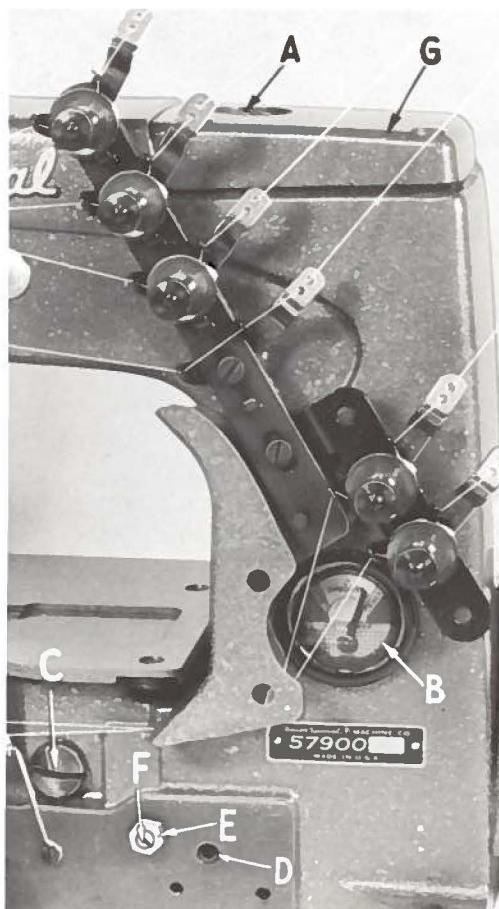
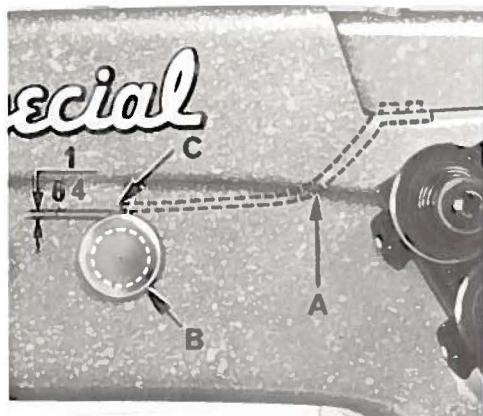

Fig. 2
Fig. 3
Use a straight mineral oil of a Saybolt viscosity of 90 to 125 seconds at 100° Fahrenheit in the main reservoir. This is equivalent to Union Special specification No. 174. Fill main reservoir at plug screw in upper crank chamber cover (A, Fig. 2) and check oil level at gauge (B). Oil is at maximum level when needle is in yellow band marked "Full". Oil should be added when needle is in yellow band marked "Low".
Oil may be drained from main reservoir by removing plug screw (C, Fig. 2) located below the cloth plate at front of the machine.
2. Remove the oil reservoir plug screw (C, Fig. 2) and tip machine forward to drain oil from the reservoir.
5. Fill main reservoir to a level even with the bottom contour of the knee press shaft bushing (D, Fig. 2).
Remove the head cover and upper crank chamber cover (G, Fig. 2). Check position of needle lever bearings oiler (A, Fig. 3) located inside the arm casting, below the upper crank chamber cover, which lubricates the needle lever stud (B). Make sure it is tilted downwardly and that its delivery end (C) contacts the inside wall of the bed casting at the back, just above the notch of the needle lever shaft stop collar. (Do not allow the oiler to rest on the needle lever). Allow 1/64 inch clearance as in Fig. 3.